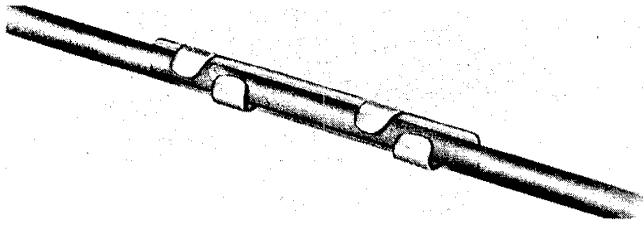

Fig. 6—B Adhesive Clip
**B ADHESIVE CLIP (Fig. 6)**
2.09 This clip is used to fasten D Station Wire and JKT (MD) Station Wire where it is undesirable to penetrate surfaces with screws or nails. It is available in ivory (—50) or light olive gray (—49) finishes.